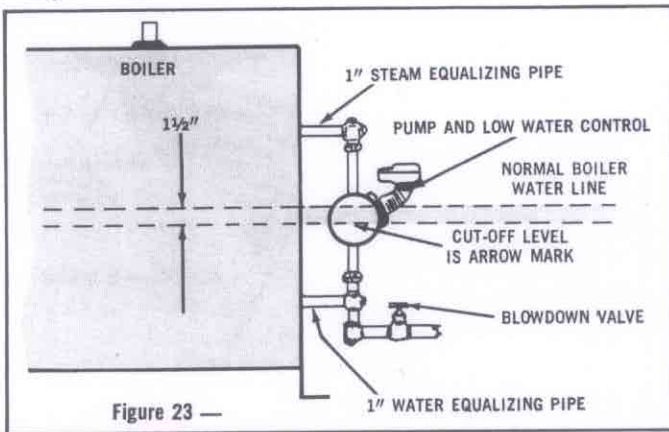

Figure 23 —
**CAUTION:** Before installing your new elements be sure the McDonnell-Miller low-water cut-off is operating perfectly and the float chamber and lower equalizer column are completely clear of sludge or other foreign matter. (See Figure 23)